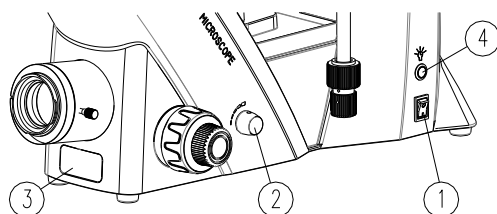

Fig.5 Power Switch
3.1.1 Turn On Light Source (Fig.5)
- a. Turn potentiometer knob ② to the minimum, turn on power switch to ① position I (ON).
- b. Rotating potentiometer knob ② to increase and decrease brightness for good illumination .
- c. Push button ④ to open infrared sensors switch,if you leaving the Infrared sensors window for 10 minutes , it will be off automatically. If someone closing to it ,the bulb will turn to bright again.